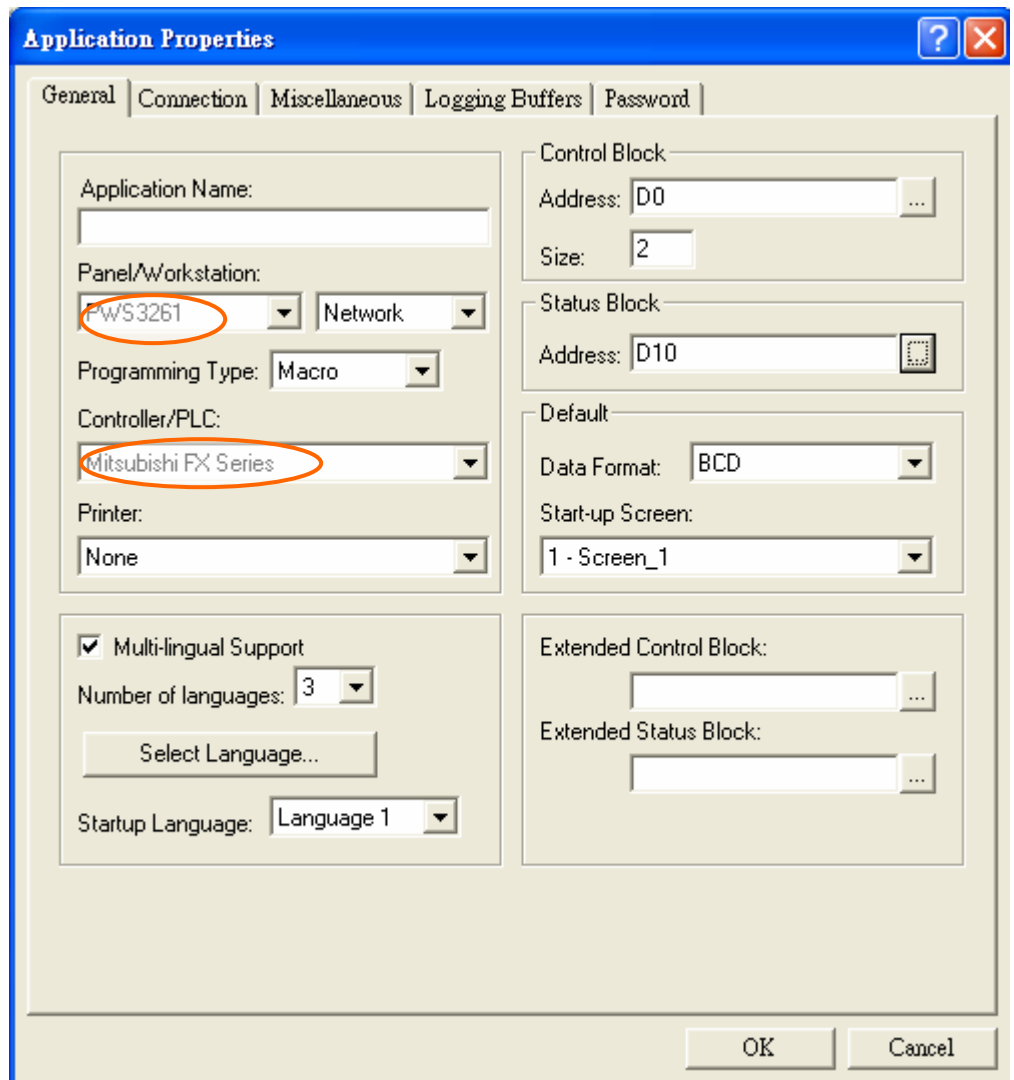

Figure 215. Set up PWS3261N_A
- (i) First, select [Application]/[Workstation Setup]. On the [General] tab, select the model of HMI from the [Panel/Workstation] list and the type of PLC from the [Controller/PLC] list. See Figure 215.